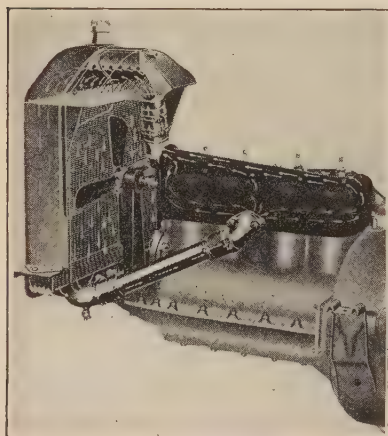

FIGURE 183.—THE FORD COOLING SYSTEM.
(Fig. 183); (6) the electric system, which causes the engine to start and keeps it running (Fig. 184); and (7) the control system, which causes the car to start, increase its speed, stop, and reverse. This system also includes the steering apparatus. Study the diagrams showing these systems and be able to explain each of them.